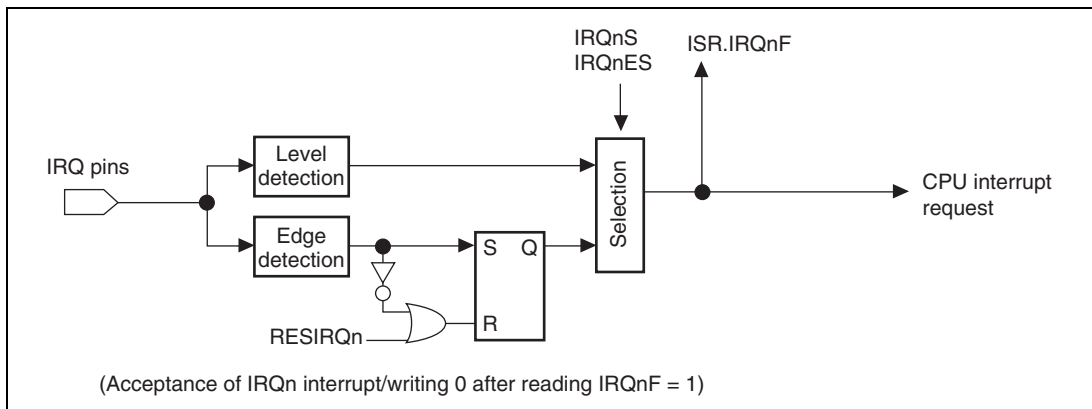

Figure 6.2 Block Diagram of IRQ3 to IRQ0 Interrupts Control
In IRQ interrupt exception processing, the interrupt mask bits (I3 to I0) of the status register (SR) are set to the priority level value of the accepted IRQ interrupt. Figure 6.2 shows the block diagram of this IRQ3 to IRQ0 interrupts.